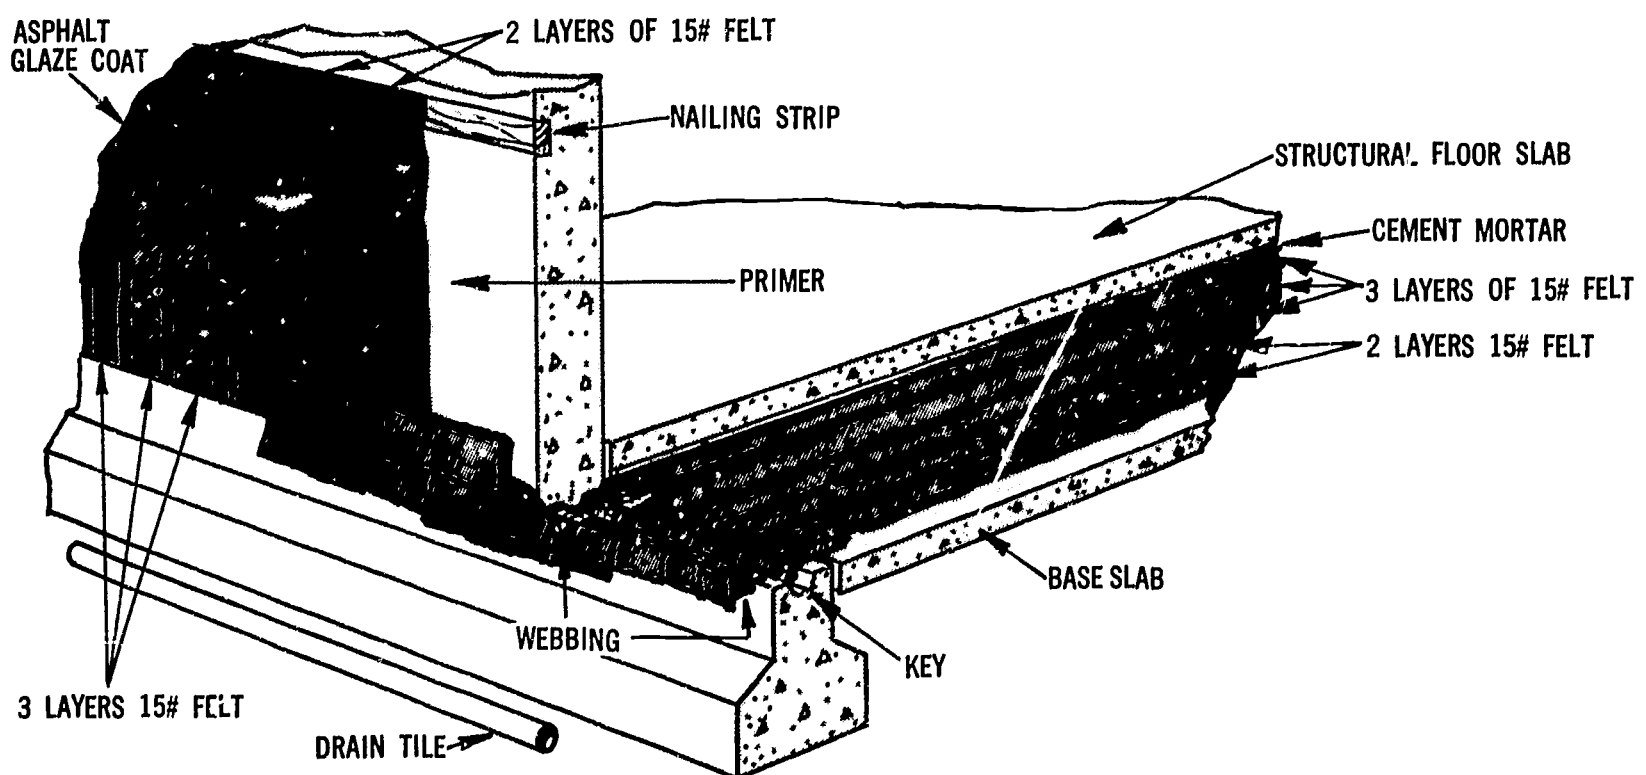

Fig. A-28. Outside application of waterproofing on foundation walls
Plans for high-quality residences, however, will have waterproofing specifications equivalent to those of the best class A structures. The following illustrations show section details of waterproofing required on such structures (Figs. A-28 and A-29):
- "Cuff" felt firmly into all footing keys (Figs. A-28 and A-29).
- Bend felt down wherever it extends beyond footings (Fig. A-28). Later, this must be lapped up on to the vertical wall when constructed.
- Apply wall membrane from the bottom up and "broom-in" as the asphalt is applied (Figs. A-28 and A-29). This will ensure good adhesion before the asphalt cools.
- Nailing strips should be provided on the wall so that membranes may be nailed at the top with tin caps (Fig. A-28).